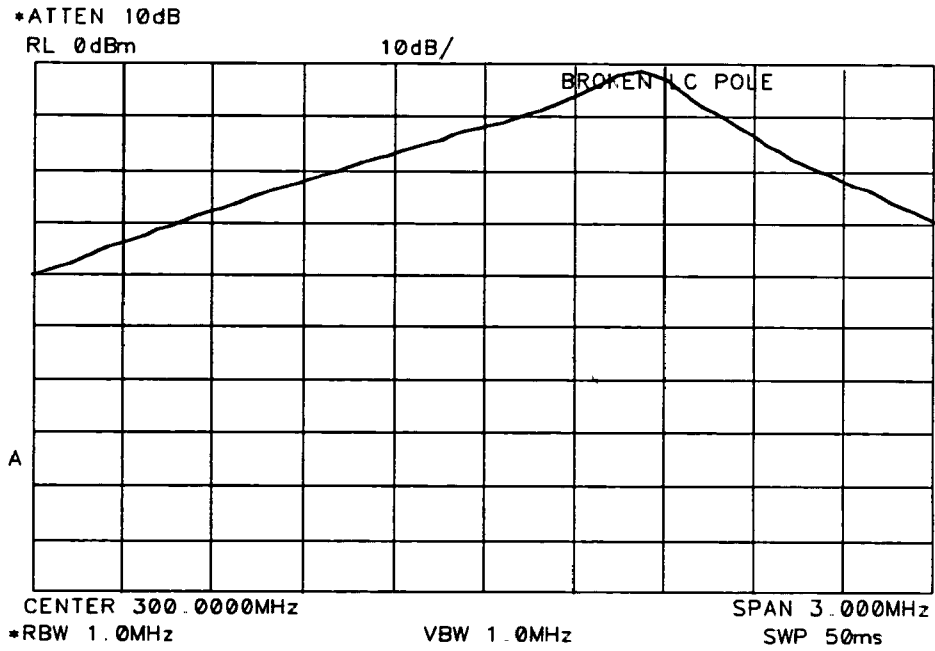

Figure 9-14. Faulty LC Pole
5. Change the HP 8562A/B SPAN to 3 MHz. A trace that slopes across the screen (see Figure 9-14) indicates a failed LC pole. To isolate the broken pole refer to the shape factor information in "30 kHz Resolution BW Problems."